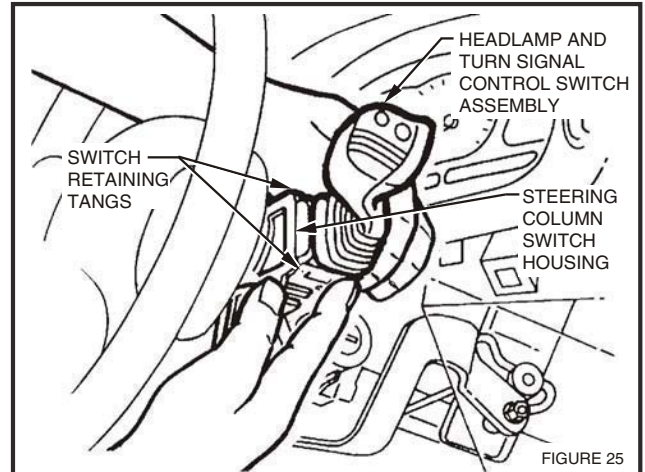

FIGURE 25
59. Disconnect RH indicator switch connector, remove indicator stalk and replace with cruise control/indicator stalk from cruise control package, refer Fig 25.